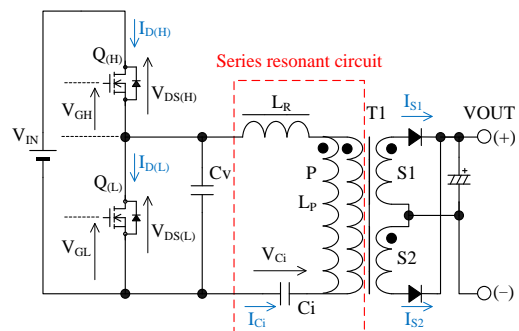
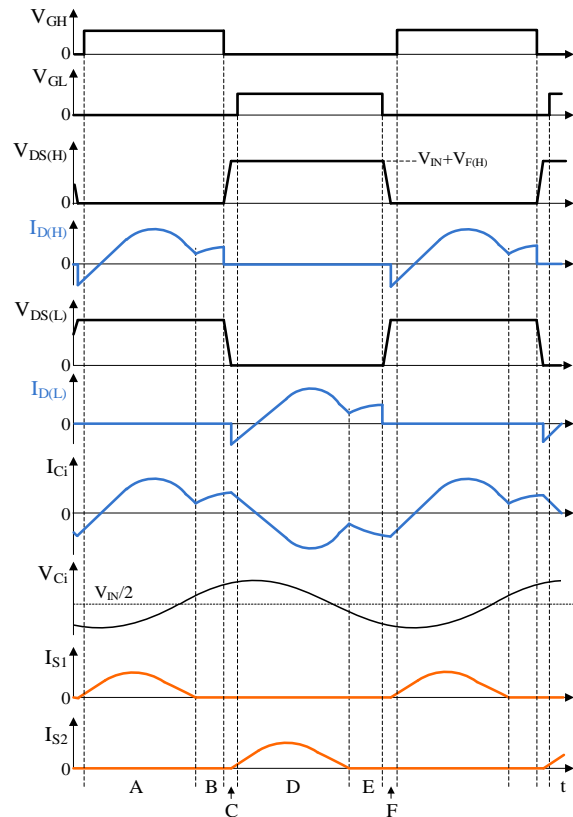

Figure 8-3. Current Resonant Power Supply Circuit
Figure 8-4. The Basic Operation Waveforms of Current Resonant Power Supply
Figure 8-3 shows the circuit of a current resonant power supply. The basic configuration of the current resonant power supply is a half-bridge converter. The switching devices,  $Q_{(H)}$  and  $Q_{(L)}$ , are connected in series with  $V_{IN}$ . The series resonant circuit and the voltage resonant capacitor,  $C_v$ , are connected in parallel with  $Q_{(L)}$ . The series resonant circuit is consisted of the following components: the resonant inductor,  $L_R$ ; the primary winding,  $P$ , of a transformer,  $T1$ ; and the current resonant capacitor,  $C_i$ . The coupling between the primary and secondary windings of  $T1$  is designed to be poor so that the leakage inductance increases. This leakage inductance is used for  $L_R$ . This results in a down sized of the series resonant circuit. The dotted mark with  $T1$  describes the winding polarity, the secondary windings,  $S1$  and  $S2$ , are connected so that the polarities are set to the same position as shown in Figure 8-3. In addition, the winding numbers of each other should be equal. From Equation (1), the impedance of a current resonant power supply is calculated by Equation (5). From Equation (4), the resonant frequency,  $f_0$ , is calculated by Equation (6).
Figure 8-4 describes the basic operation waveform of current resonant power supply (see Figure 8-3 about the symbol in Figure 8-4). For the description of current resonant waveforms in normal operation, the operation is separated into a period A to F. In the following description: